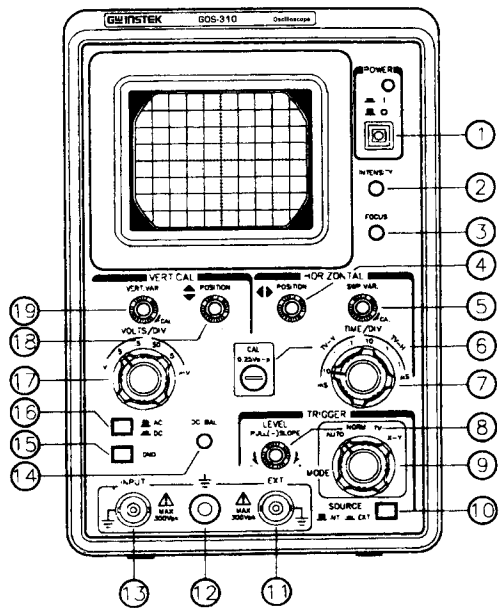

Fig 1. Front Panel
(see Fig. 1 and 2)
2. To obtain a basic sweep display (numbers in parentheses indicate numbered positions on Fig. 1 and 2)